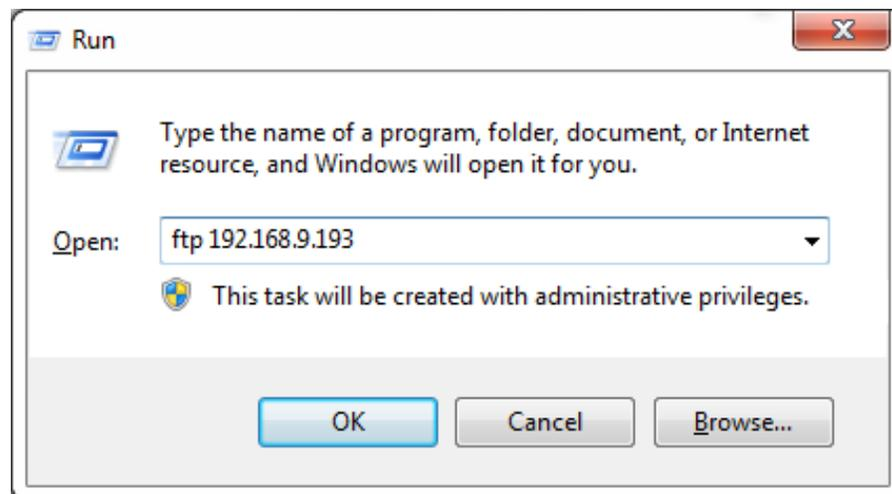

Figure 7-5: Run Window for FTP Access
2. FTP into the control panel using the following command. Replace 192.168.9.193 with the unique IP of the control panel as shown in Figure 7-5. When prompted for the Login and Password simply press enter for both.